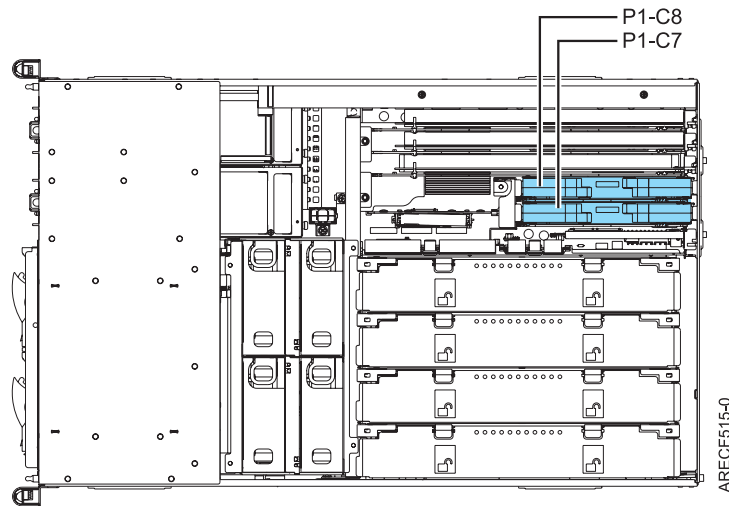

Figure 1. Top view of slots P1-C7 and P1-C8 in model 8204-E8A or 9409-M50
- For model 8204-E8A or 9409-M50, if there is only one processor card in the system, choose slot P1-C8 as shown in Figure 1. If two processor cards are installed, P1-C7 will also support a GX adapter.